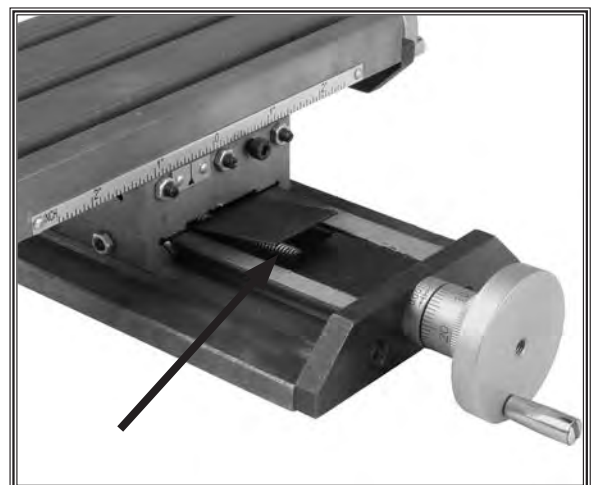

Figure 29. Crossfeed leadscrew.
- Crossfeed leadscrew (**Figure 29**)